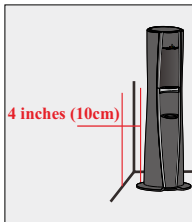

Figure 5
2. Position water dispenser so that the back of the unit is a minimum of 4 inches / 10 cm away from the wall to ensure proper ventilation (Figure 5).